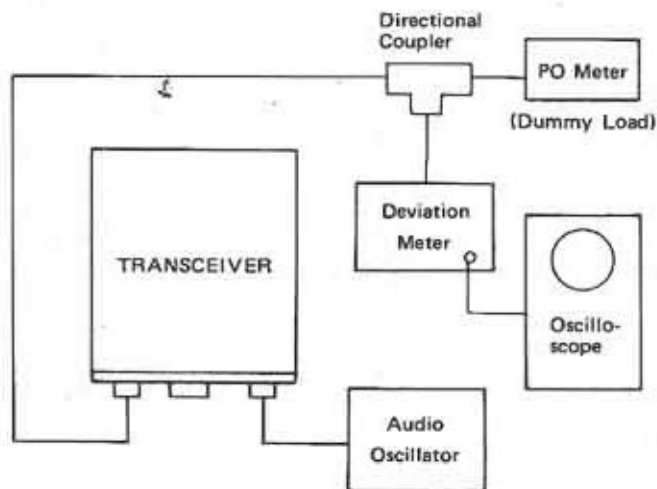

Figure 2
- (a) Connect the test equipment to the transceiver as shown in Figure 2.